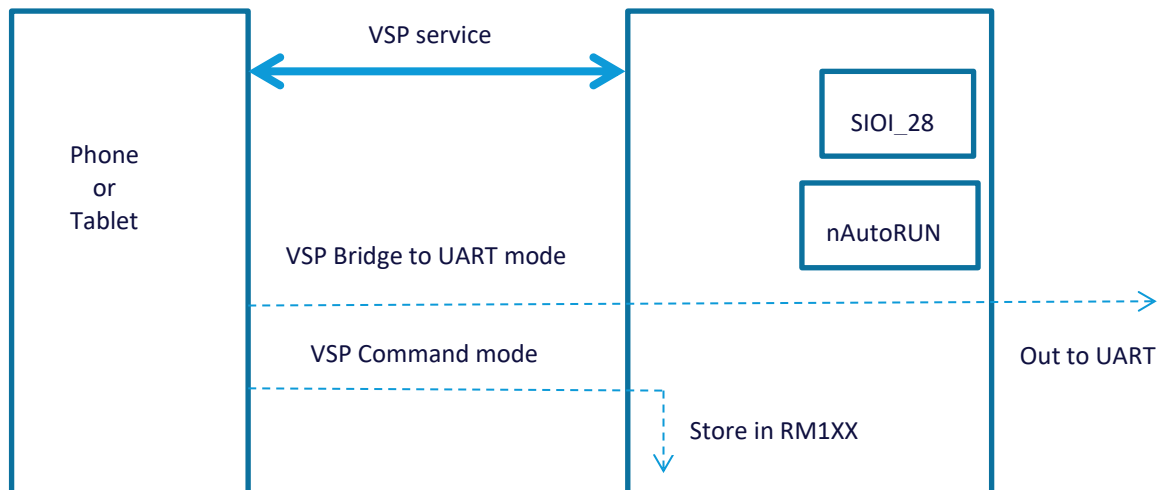

Figure 7: Difference between VSP bridge to UART mode and VSP Command mode
**Figure 7** shows the difference between VSP Bridge to UART mode and VSP Command mode and how SIO\_28 and nAutoRUN need to be configured to select between these two modes.